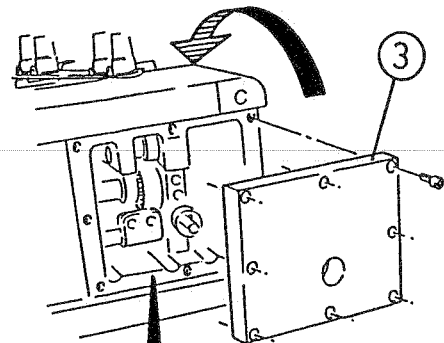

Fig.10
- (6) Turn front-to-back feed eccentric ⑧ so that groove ⑨ is positioned at 6 o'clock of the shaft (if the machine is laid down as shown in Fig.10, groove ⑨ should be turned straight toward your side.)
- (7) In this condition, tighten either one of screws ⑦ of front-to-back feed eccentric ⑧.
- (8) Loosen two screws ⑩.